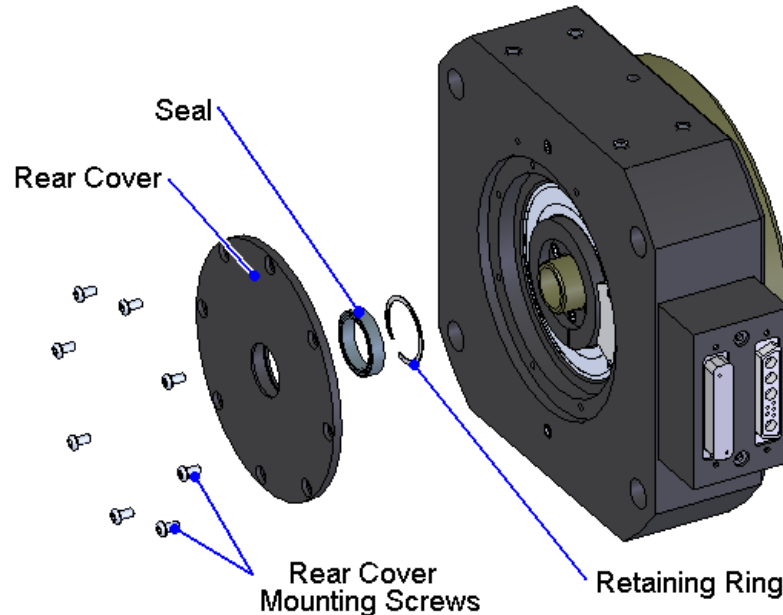

Figure 4-1: Exploded View of Seal Assembly
The seals on ADRS150 and ADRS200 stages may need to be replaced because of excess wear. Figure 4-1 shows an exploded view of the assembly and includes all parts involved in the process.
2. Remove the rear cover mounting screws (refer to Figure 4-1).